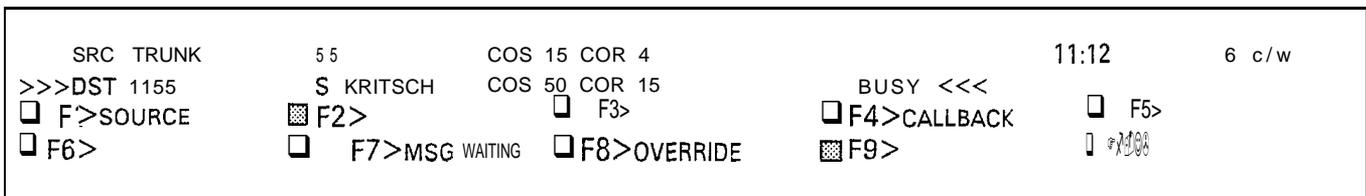

Figure 3-14 Reaching a Busy Destination
3.19 When the Attendant reaches a busy extension the softkey options are: return to the SOURCE if one exists, set up a CALL-BACK, send a message (MSG WAITING) or OVERRIDE. Refer to Figure 3-14.